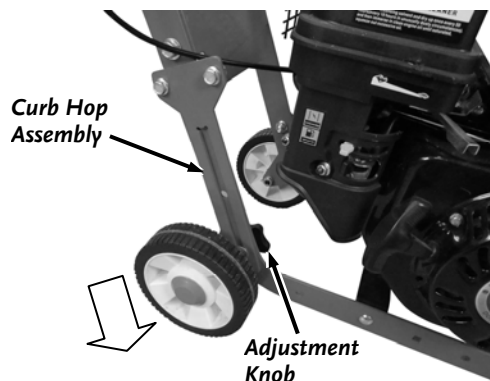

Figure 18
4. Loosen the Hand Knob at the right side rear Wheel and lower the Wheel to the ground below the Curb (*Figure 18*).